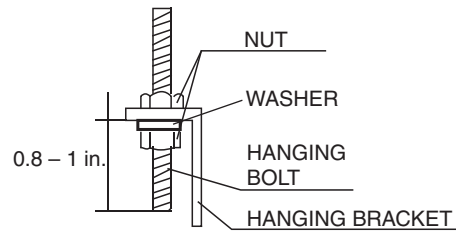

Fig. 7 — Mounting the Hanging Bracket
2. Secure the hanging brackets in position with locknuts and washers on both sides. Ensure the threaded rod does not protrude more than 1 in. below the mounting hole on the hanging bracket as shown in Fig. 7.